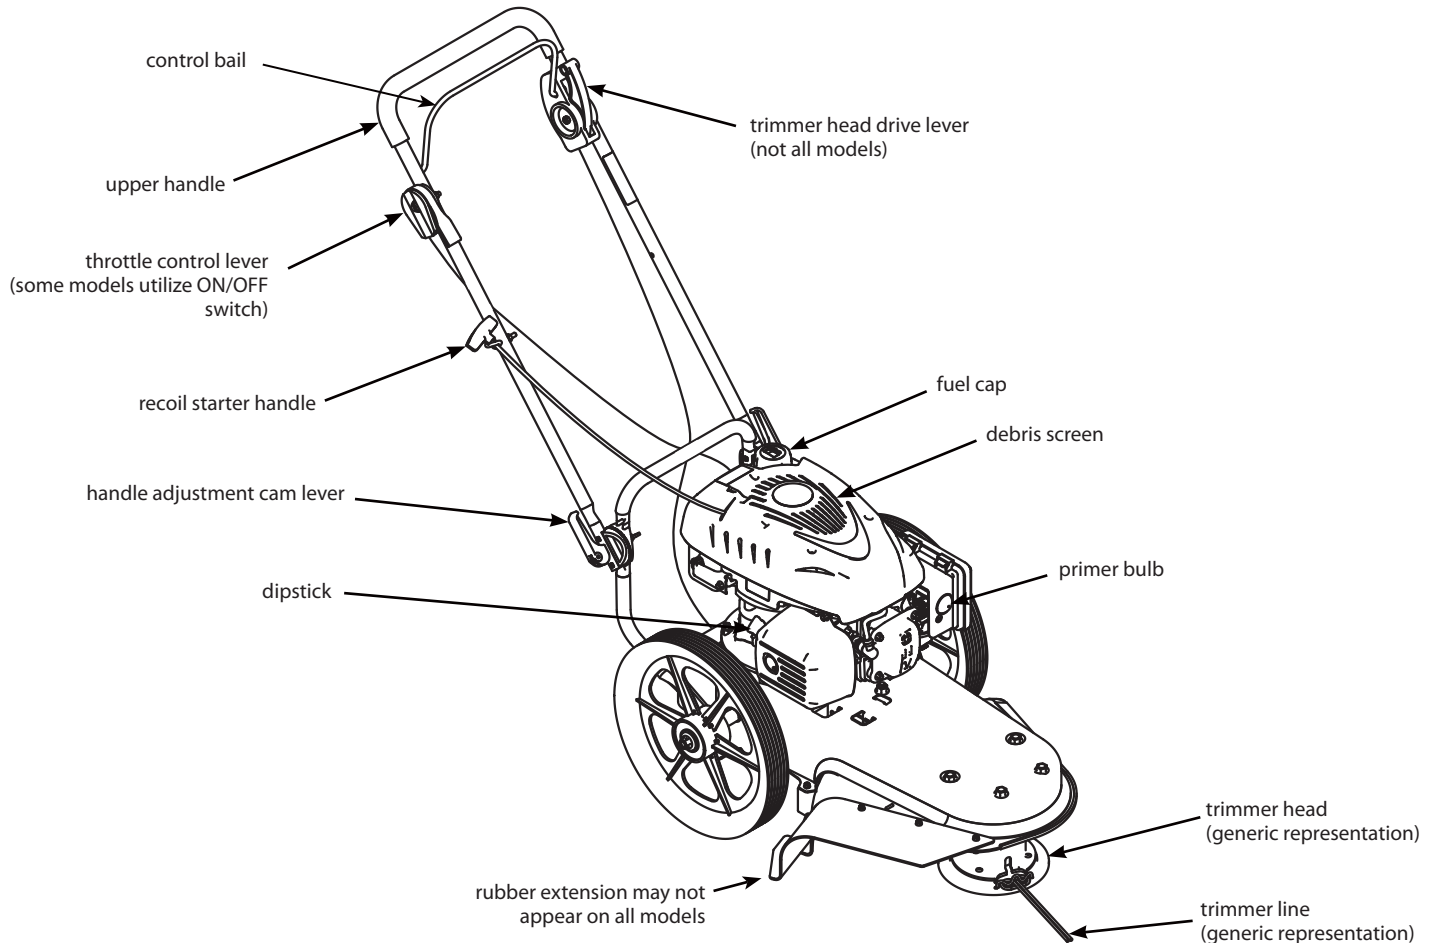

FIGURE 1: Your new string trimmer
1. Before each use, remove debris from the debris screen. **SEE FIGURE 1 IN "FEATURES" SECTION.** Debris can cause the engine to overheat. Wipe the debris screen with a cloth or paper towel.